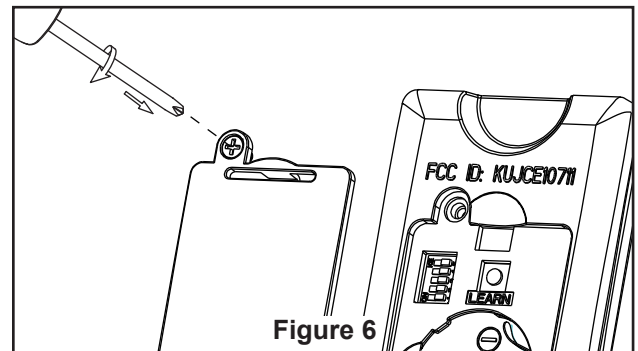

Figure 6
6. Assemble the LED assembly to the light kit using the two key slots. Replace the removed screw from Step 3 and secure all three screws. (Figure 6)
- 8.** Replace battery cover on the remote control and secure with the previously removed screw. (Figure 6)